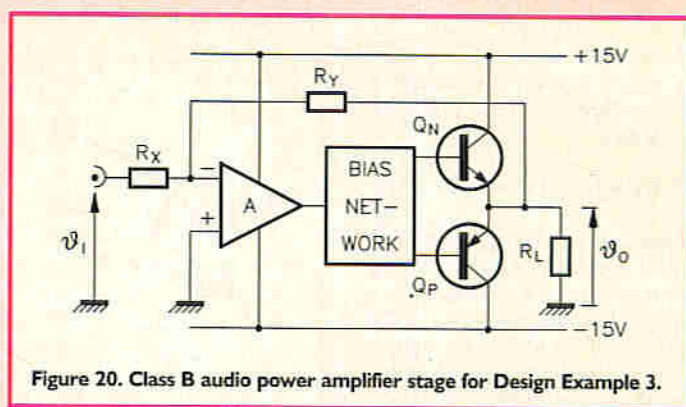

Figure 20. Class B audio power amplifier stage for Design Example 3.
Figure 20 is the circuit of a Class B amplifier stage supplying audio-frequency signal power to a load represented by a resistor,  $R_L$ . The operational amplifier  $A$ , connected in the inverting configuration, drives a complementary emitter-follower power output stage via a bias/driver network, details of which are omitted because they are not relevant in the present discussion. The conduction state of the output transistors  $Q_N$ ,  $Q_P$  is shown in Table 2.
Table 2. Transistor conduction state for Figure 20. ●=ON; X=OFF
**Problem:** For the circuit of Figure 20,  $P_D=0.25W$  for  $Q_N$ ,  $Q_P$  and  $v_o$  is a sinusoidal waveform with a mean value of zero. Find the minimum acceptable values of  $R_L$  if  $V_P$  lies anywhere in the range (a) 0V to 5V and (b) 0V to 10V.
**Solution (a):** Using (22), the maximum value of  $n$  is 0.26 (i.e.  $\pi$